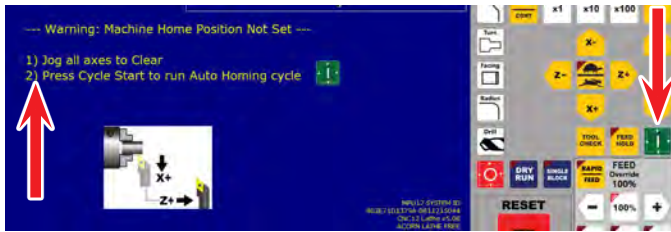

FIGURE 44
B. Because of these settings, the control will request that you “Jog all axes to a clearance point on the machine.” Then “Press Cycle Start to run the Auto Homing cycle” (see Figure 44).